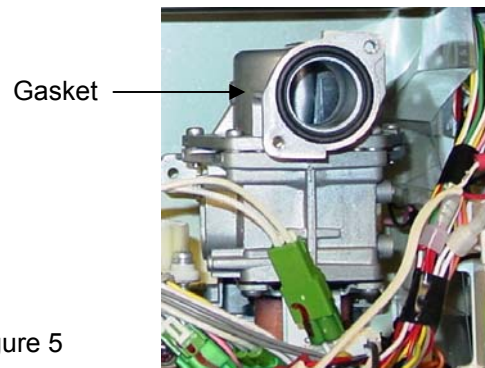

Figure 5
17. Replace the circular gasket (included in kit) in the gas valve. (Figure 5) Make sure that the ribbed side faces toward the manifold and that the flat side faces toward the gas valve.